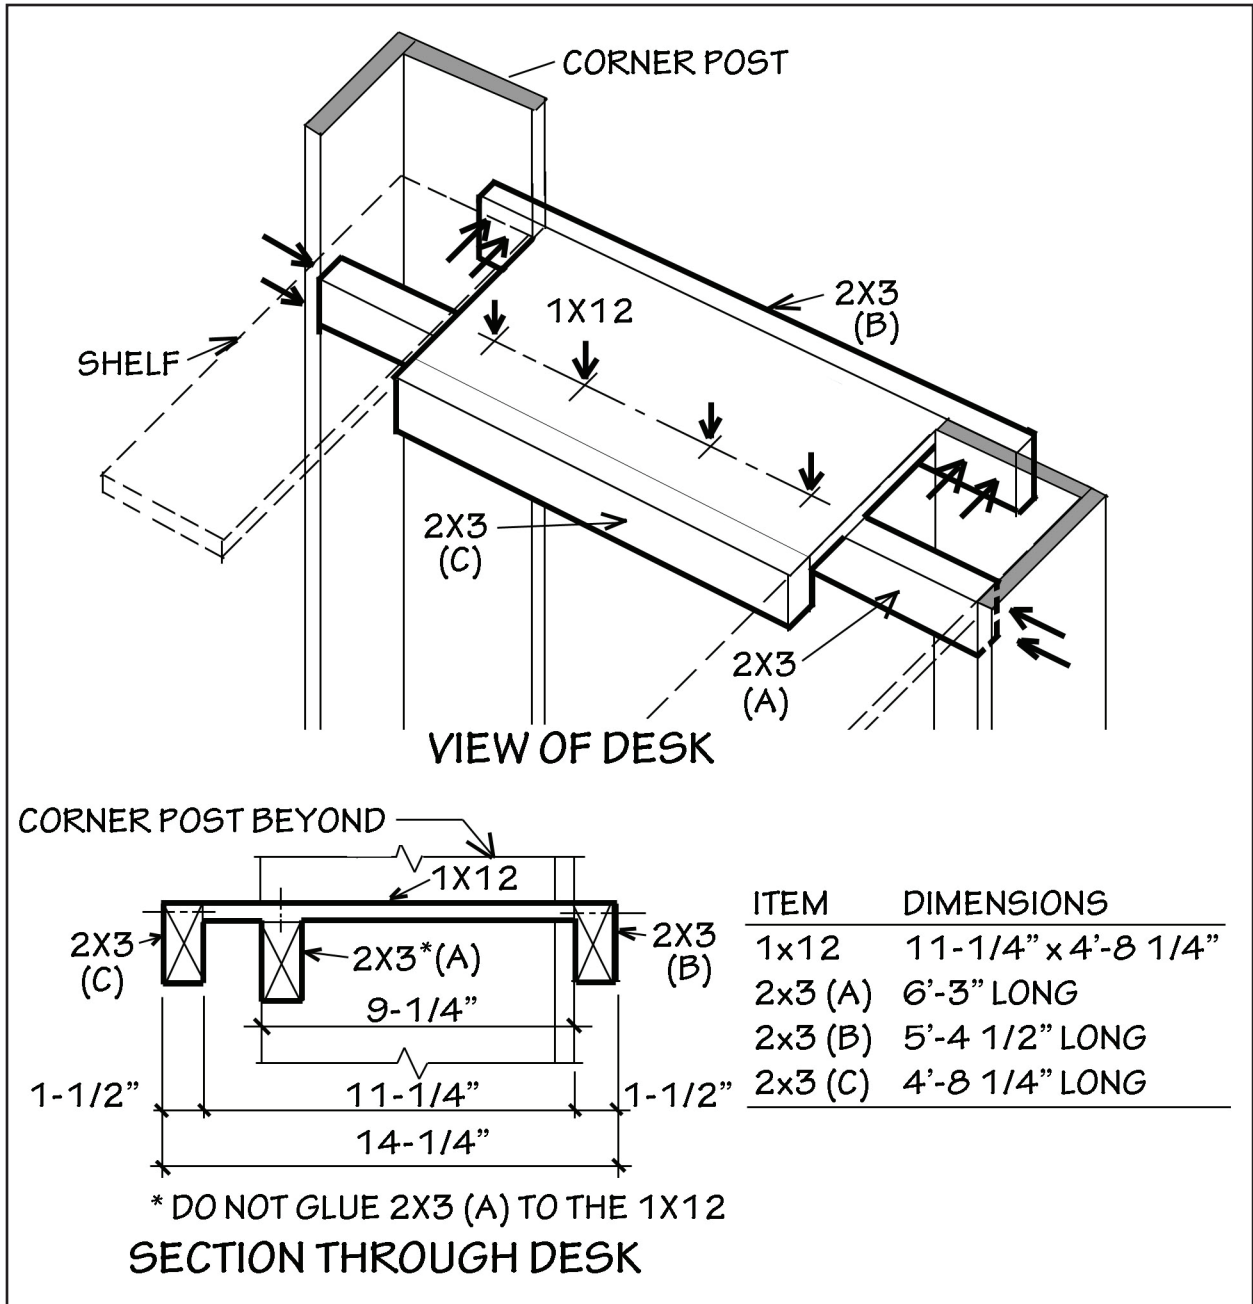

Figure 4. Fabrication and installation of desk
6. **DESK.** The desk consists of three 2x3s and a 1x12 glued together as shown in Figure 4. Two of the three 2x3s extend symmetrically beyond the 1x12 board (i.e., the 2x3s labelled A and B); the third 2x3 (labelled C) is the same length as the 1x12. First screw 2x3 (A) flush with the corner posts as shown. The top of the desk aligns with the top of the third shelf from the bottom, i.e., it is 2'-4" above the floor (see diagram on page 4). So the top of 2x3 (A) should be pressed up against the bottom of that shelf. Fasten this 2x3 to the corner posts with two 2-1/2" screws on each side.
Next, move the rest of the desk, already screwed and glued together as shown in Figure 4, into position, resting on 2x3 (A) and pressed up against the outside surface of the back corner posts. Screw 2x3 (B) to the corner posts with 2-1/2" screws, paying attention to the direction of the arrows in Figure 4. Finally, screw the 1x12 desk surface into 2x3 (A) with 1-5/8" screws. It is also a good idea to screw through the side shelves into 2x3 (A) on the same line as the screws through the 1x12 desk into 2x3 (A). These additional screws are not shown in Figure 4.